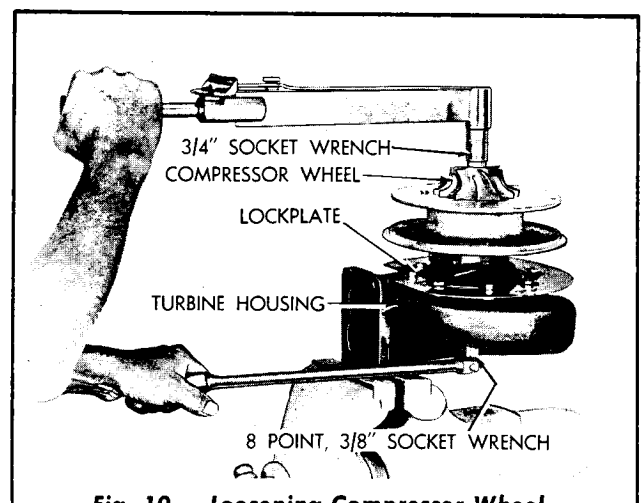

Fig. 10 — Loosening Compressor Wheel Locknut
- b. Use $\frac{3}{4}$ " socket wrench on compressor wheel locknut (Fig. 10).